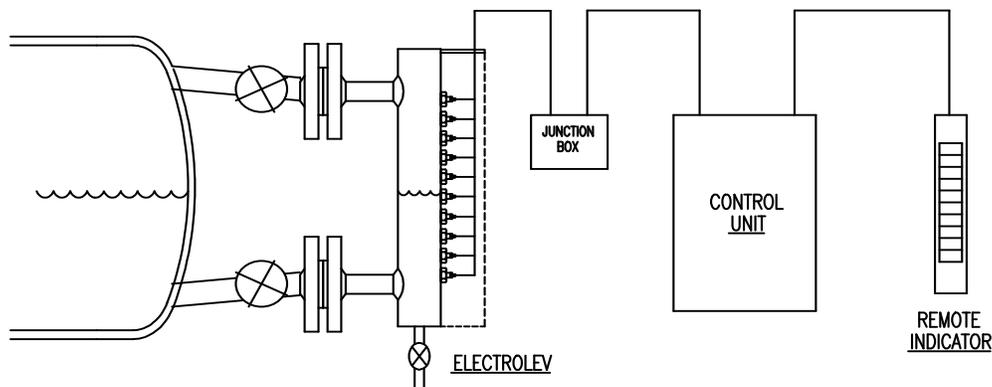

Fig. 1 EYE-HYE COMPONENTS & TYPICAL INSTALLATION
1. The **Electrolev** should be installed on the boiler drum or vessel, as shown in Fig. 1. The distance between the Electrolev and the boiler drum should be kept to a minimum. A slope in the steam leg running from the drum or vessel towards the Electrolev of not less than 1 inch of fall for each 50 inches of linear length is recommended. The water leg should be installed with a downward slope running from the Electrolev to the drum or vessel. Care should be taken to ensure no restriction or 'trap' occurs in the pipework which may lead to an accumulation of sediment, resulting in a restriction of flow to or from the Electrolev column. Isolation (Shut-off) valves should be installed to permit maintenance of the Electrolev while the vessel is pressurized. The standard vessel connections are 1" male pipe projections. Flanged or female socket weld connections are available options. A drain valve must be installed at the bottom of the Electrolev, as shown in Fig. 1. **Note:** When field welding any Water Gage Valves or Isolation valves, it is recommended that the valve be in the open position in order to dissipate heat properly. The standard drain connection on the Electrolev is 1/2" female socket-weld. If the steam leg piping should be left exposed to encourage the formation of condensate flow to the Electrolev column (to promote heat transfer to minimize density related errors), it is recommended that shields or guards be fitted to reduce the risk of contact with hot surfaces. It is recommended that the water leg piping between the boiler drum and the Electrolev be insulated. Insulation will reduce the effects of cooling and will provide added personnel protection from hot piping. The Electrolev column may be insulated by field personnel, or with a FlexPak insulation jacket available from Clark-Reliance.